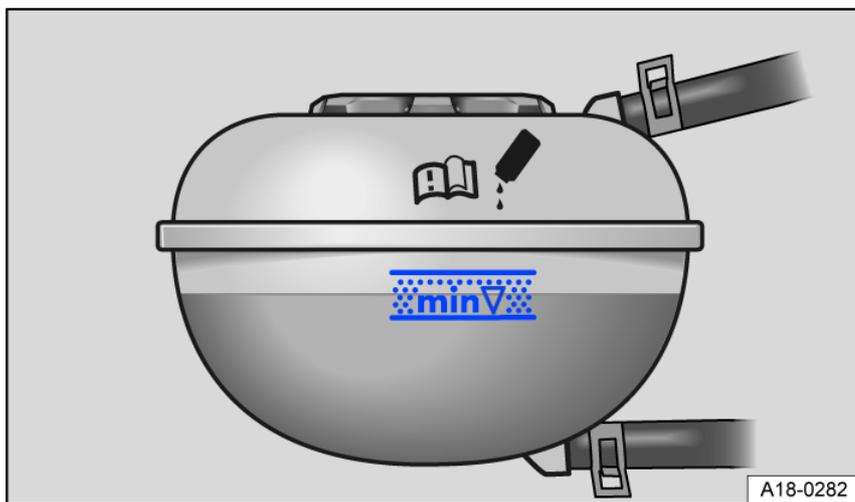

Fig. 204 In the engine compartment: markings on the engine coolant expansion tank.
1. When the engine is cold, check the coolant level using the markings on the side of the engine coolant expansion tank *fig. 204*. The coolant level must be between the markings.
After topping up the engine coolant, the coolant level must be between the markings on the coolant expansion tank *fig. 204*.